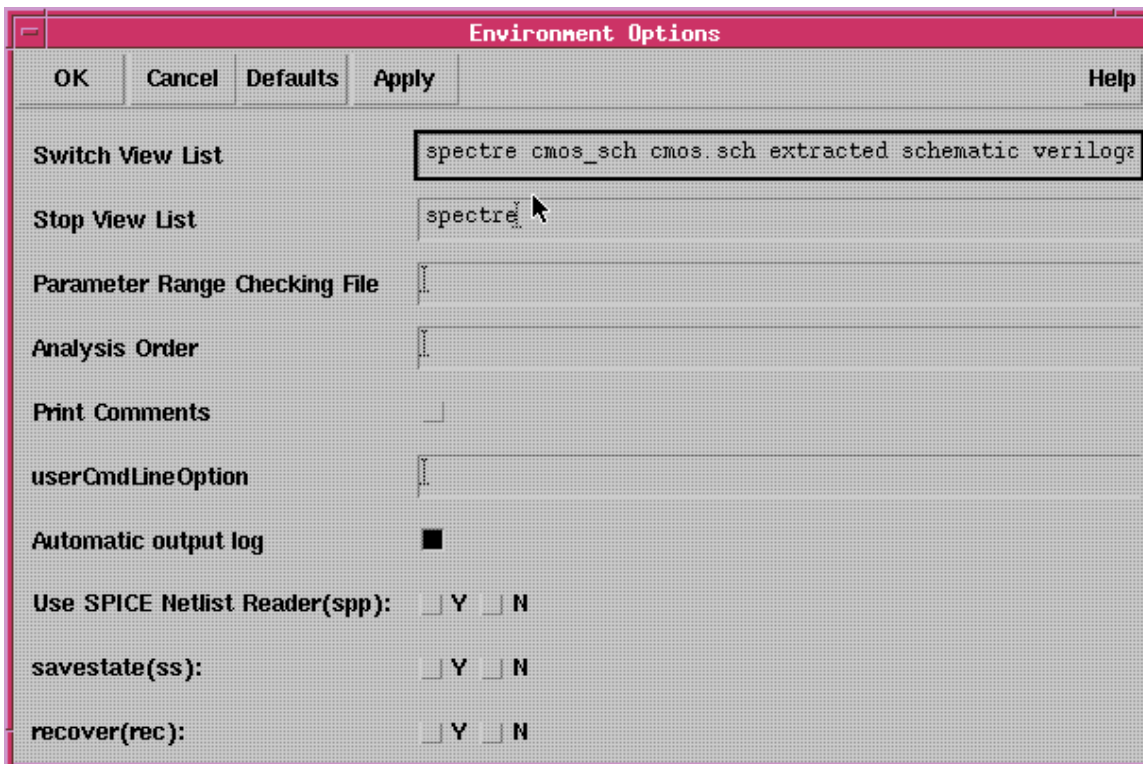

Fig. 27. Inserting extracted view
- Insert **extracted** view before the **spectre** in the **Switch View List** like in Fig. 27.